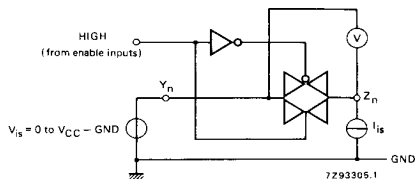

Fig. 6 Test circuit for measuring R_{ON} .
2. For test circuit measuring R_{ON} see Fig. 6.